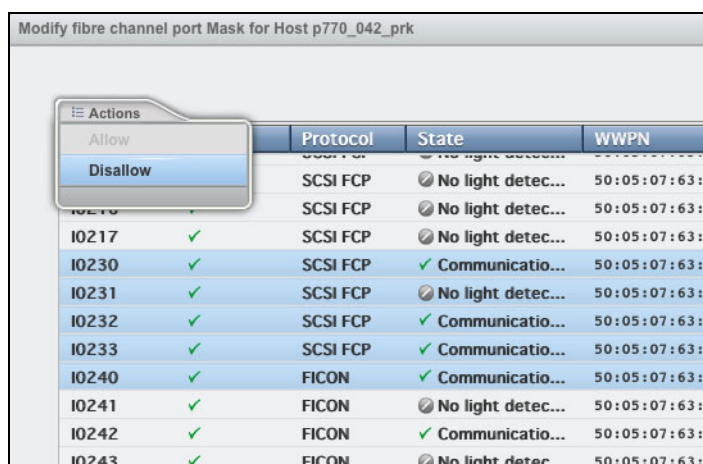

Figure 11-79 Modify Fibre Channel Port Mask
2. A list of the DS8880 fibre channel ports is displayed. Select one or more ports to disallow. You can use the Ctrl or Shift key for multiple selections. Click **Save**. See Figure 11-79.